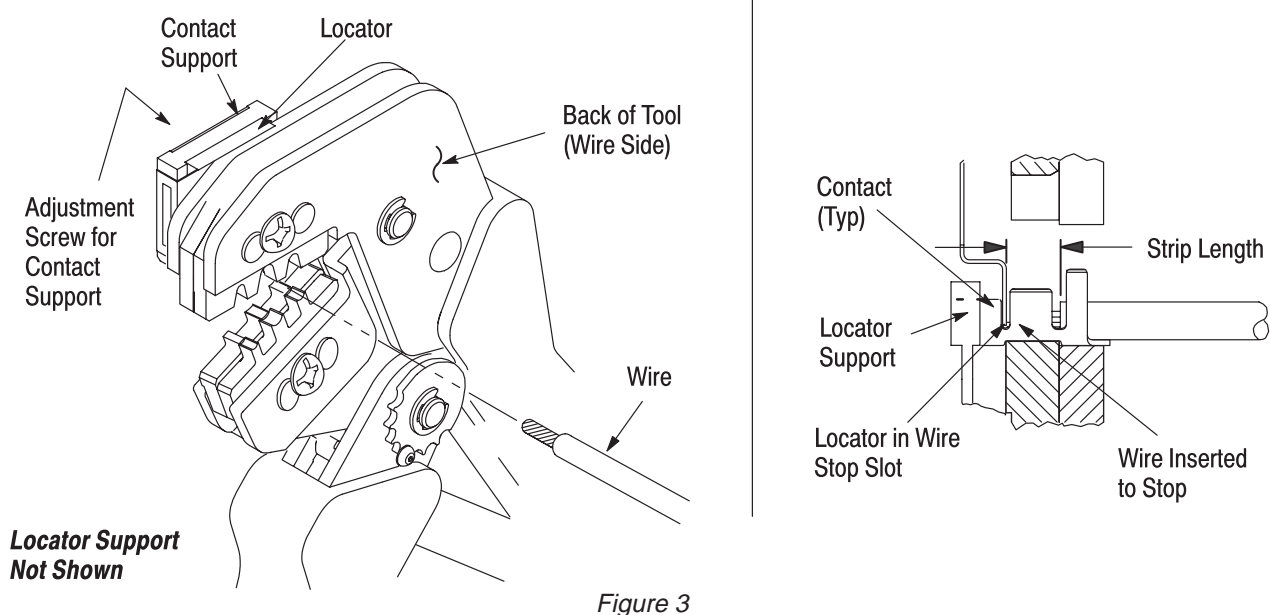

Figure 3
#### 4. CONTACT SUPPORT ADJUSTMENT (Figure 3)
Refer to the table in Figure 1 and select wire of the specified size and insulation diameter. Strip the wire to the length indicated in Figure 1, taking care not to nick or cut wire strands. Select an applicable contact and identify the appropriate crimp section according to the wire size markings on the tool. Refer to Figure 3 and proceed as follows:
3. Place contact into the locator support and position the contact so that the mating end of the contact is on the locator side of the tool, and so that the open “U” of the wire and insulation barrels face the top of the tool. Carefully close the tool, positioning the contact so that the movable locator drops into the slot in the contact. Refer to Figure 3.
6. Insert stripped wire into contact insulation and wire barrels until it is butted against the wire stop, as shown in Figure 3.
**NOTE** The crimped contact may stick in the crimping area, but the contact can be easily removed by pushing downward on the top of the locator (see Figure 3).